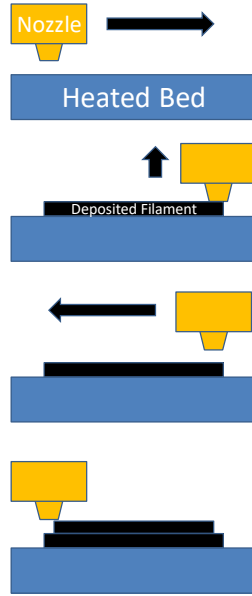

Figure 1: Steps Of 3D Printing
- Each layer has a unique shape that builds off the previous layer and supports the next one (Figure 1).